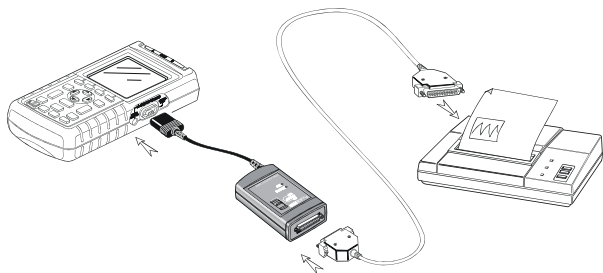

Figure 1-23. Connecting a Parallel Printer
- The Print Adapter Cable (PAC91, optional) to connect a parallel printer to the OPTICAL PORT of the test tool. See Figure 1-23.